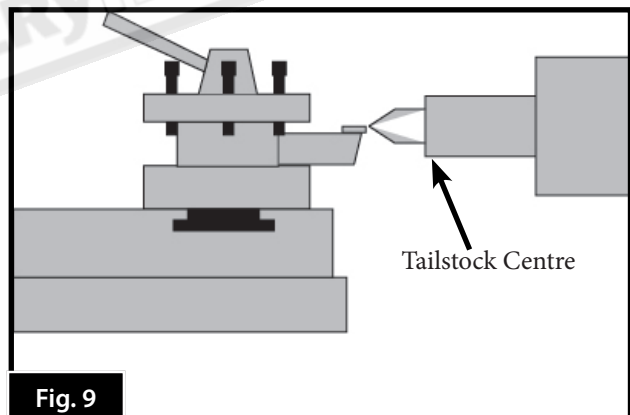

Fig. 9
4. Adjust the height of the cutting tool tip to meet the centre tip, as shown. (Fig.9)